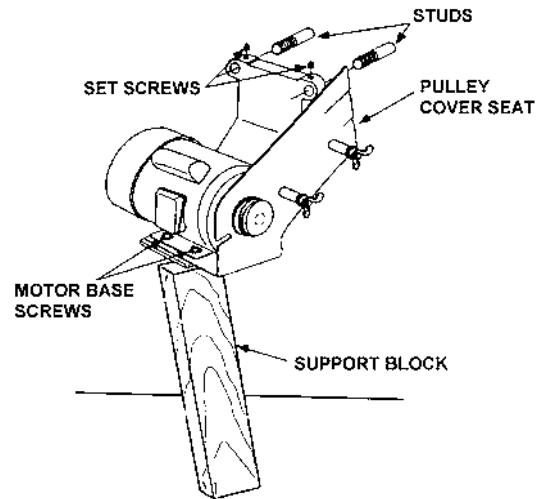

Figure 15
6. Install the motor assembly onto the protruding studs at the back of the saw. See Figure 15.
7. Tighten down setscrews in top of cast motor bracket with hex wrench as shown in Figure 15.